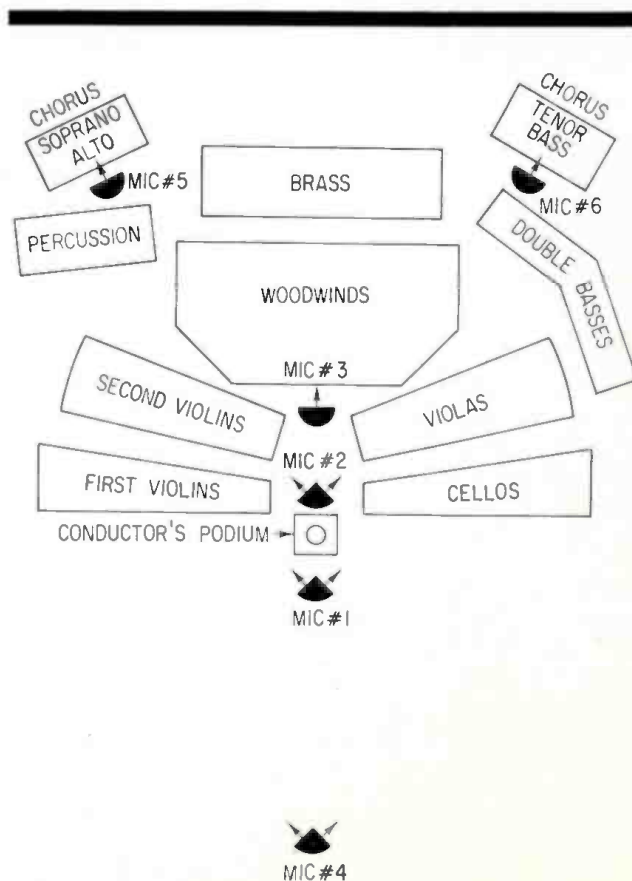

Figure 8. A multi-mic arrangement for symphony orchestra employs three coincident pairs, one spaced pair, and one accent mic.
To demonstrate some of the actual problems involved in microphone placement, let us assume that we are experimenting with a multi-mic set-up during a rehearsal of a full symphony orchestra and chorus in a large recording hall. In the particular instrumental layout shown in FIGURE 8, the first violins are placed on the conductor's left while the cellos and violas are grouped toward his right. As a starting point, a suitable choice for the main pickup microphone could be a dual cardioid type operating in the X-Y mode, and mounted about 15 feet over and slightly behind the conductor's podium. In monitoring the reproduction, the optimum position of this microphone pair (1) is usually determined by the balance of the string section in relation to the brass and woodwinds. Owing to the relative weakness of the string instruments (which require a higher ratio of direct-to-reverberant sound), they tend to be obscured by other types with more substantial tonal quality. Hence, if microphone 1 does not yield a proper balance, a subsidiary stereo cardioid pair (2) could be used to emphasize the strings. This microphone pair should be elevated about 8 feet with the left unit aimed at the first violins, and the right unit directed toward the violas. Since the violas are characterized by an inherent veiled tonal quality, the possibility of introducing artificial reverberation to the right channel should be considered. The use of this additional microphone pair to reinforce the strings is acceptable, provided that care is taken that the directional information does not conflict with that of the main stereo pair. If necessary, a single cardioid accent microphone (3) could be used to emphasize the woodwinds, in order to further improve the tonal balance. The output of this microphone can subsequently be divided between left and right stereo channels by means of a pan-pot control.